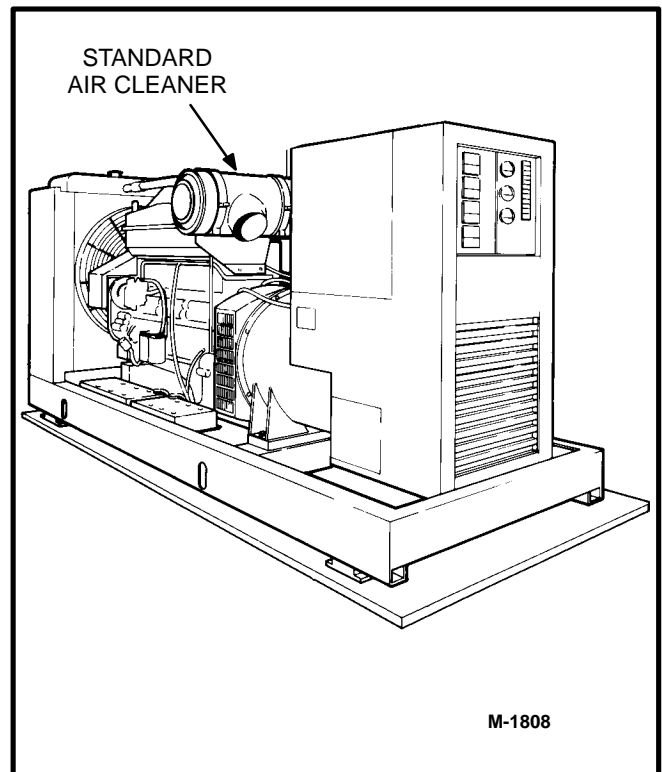

FIGURE 5-8. STANDARD AIR CLEANER
**To Service the Air Cleaner:** See Figure 5-8 and 5-9.